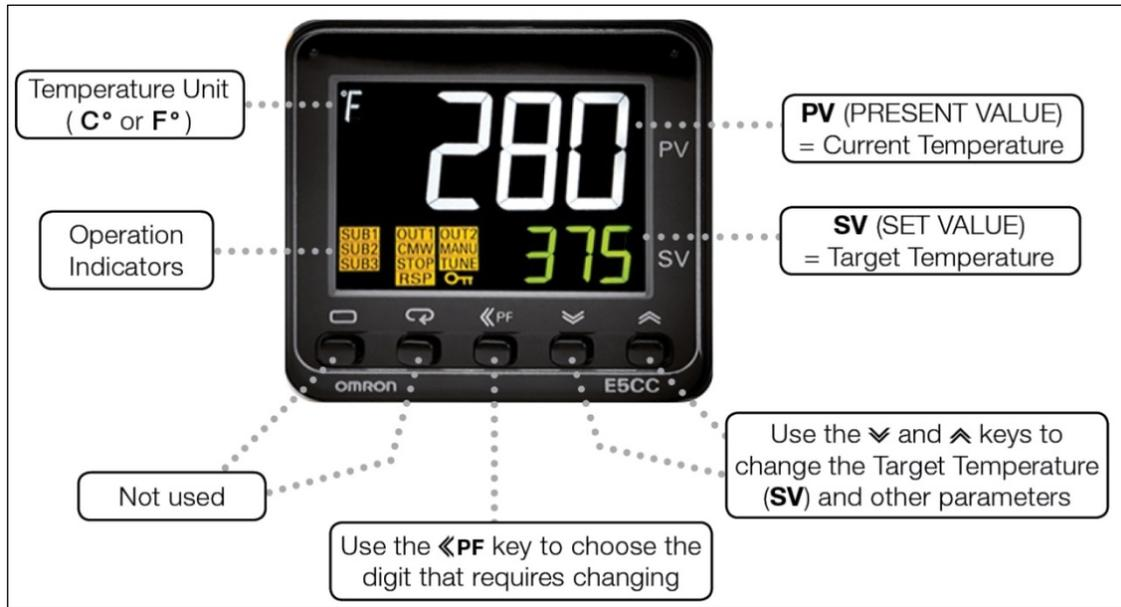

Figure 1.2, Temperature controller
5. Set the **2** **TEMPERATURE CONTROL** to the target frying temperature (See Figure 1.2) (**TEMPERATURE CONTROL** light will turn on when fryer is heating).